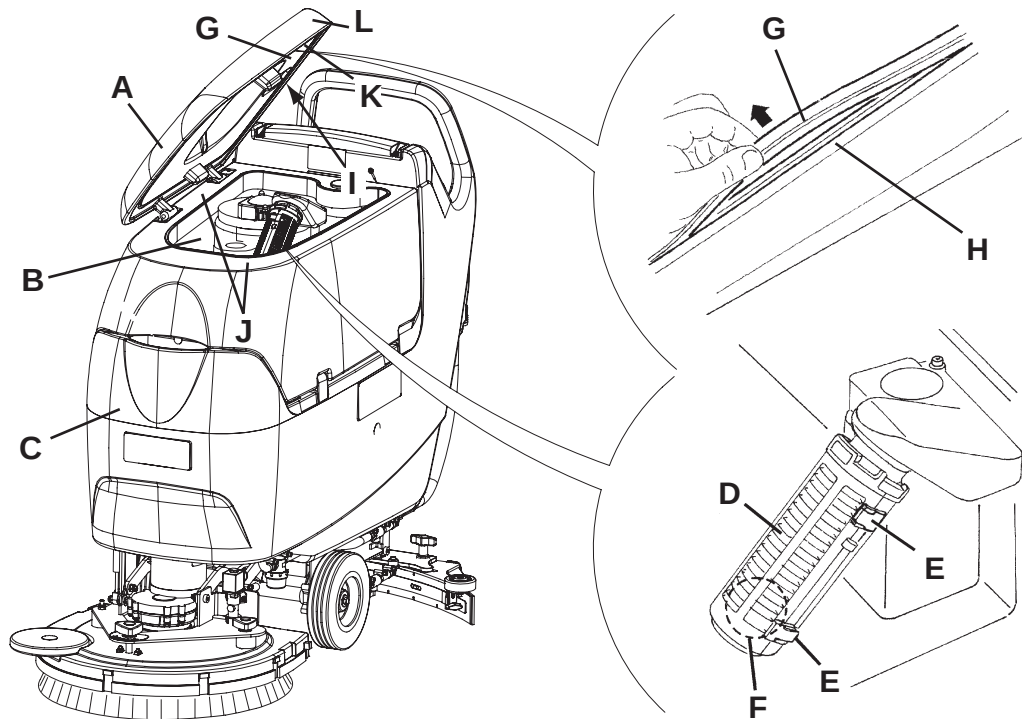

Figure 4
2. Press the switch (71) and/or (73) to turn the machine off.
3. Lower the squeegee (25) with the lever (10).
4. Loosen the handwheels (26) and remove the squeegee (25).
5. Disconnect the vacuum hose (15) from the squeegee.
6. Wash and clean the squeegee (Fig. 4). In particular, clean the compartments (A, Fig. 4) and the vacuum hole (B) from dirt and debris. Check the front blade (C) and the rear blade (D) for integrity, cuts and tears; otherwise replace them (see the procedure in the following paragraph).
3. Open the cover (A, Fig. 4) to washing position (L).
4. Wash with clean water the cover (A), the tanks (B and C) and the vacuum grid with automatic shut-off float (D). Drain the water from the tanks with the hoses (16 and 17).
5. If necessary, release the retainers (E) and open the grid (D), recover the float (F), clean all the components and then reinstall them.
6. Check the tank cover gasket (G) for integrity.